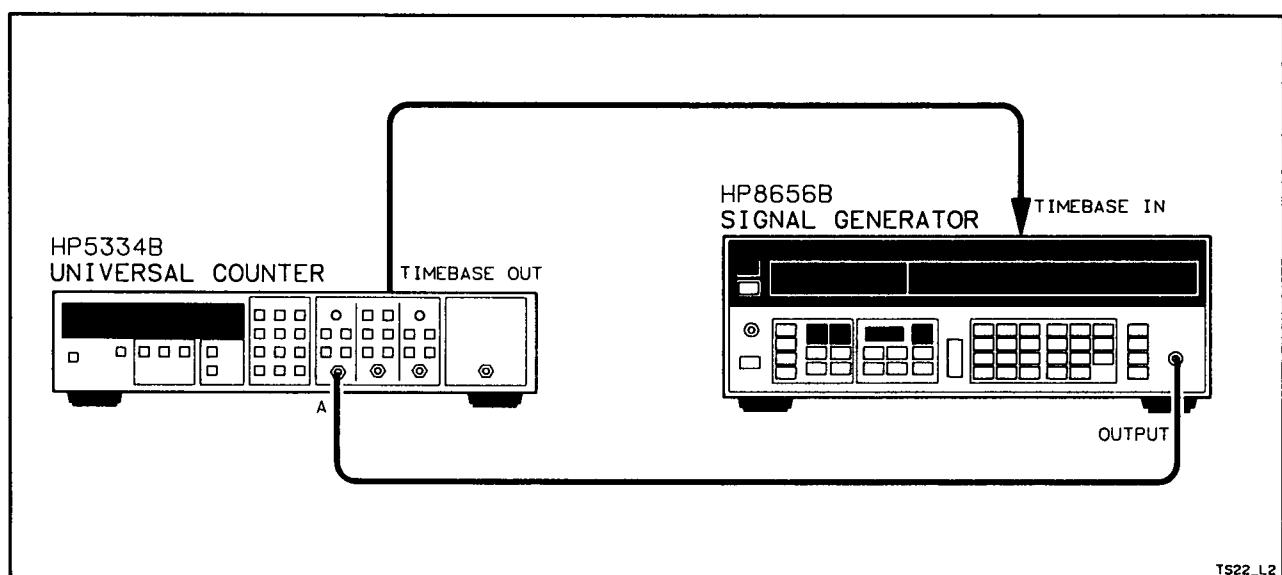

Figure 5-8. MRC Input Adjust/Channel A Setup
3. Connect the Signal Generator output to the 5334B Input A. Connect Time Base as shown in *Figure 5-8*.